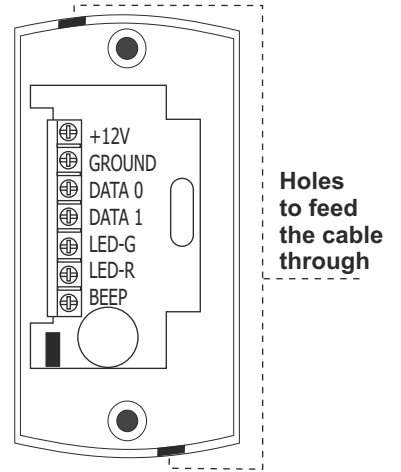

Figure. 3
- Remove the thin tab in the reader case, from the side where the cable must come out (Fig. 3), and feed the cable through this hole. When power is connected to the reader, the red LED will light up.